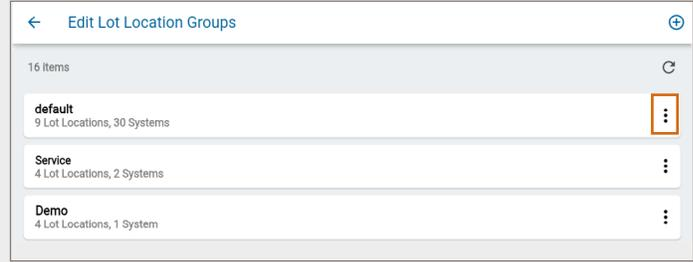

Fig. 248 – The quick action menu
3. Select the **menu**  for the lot location group you wish to edit, as shown in Fig. 248.
2. Select the **menu**  for the lot location group you wish to delete, as shown in Fig. 248.